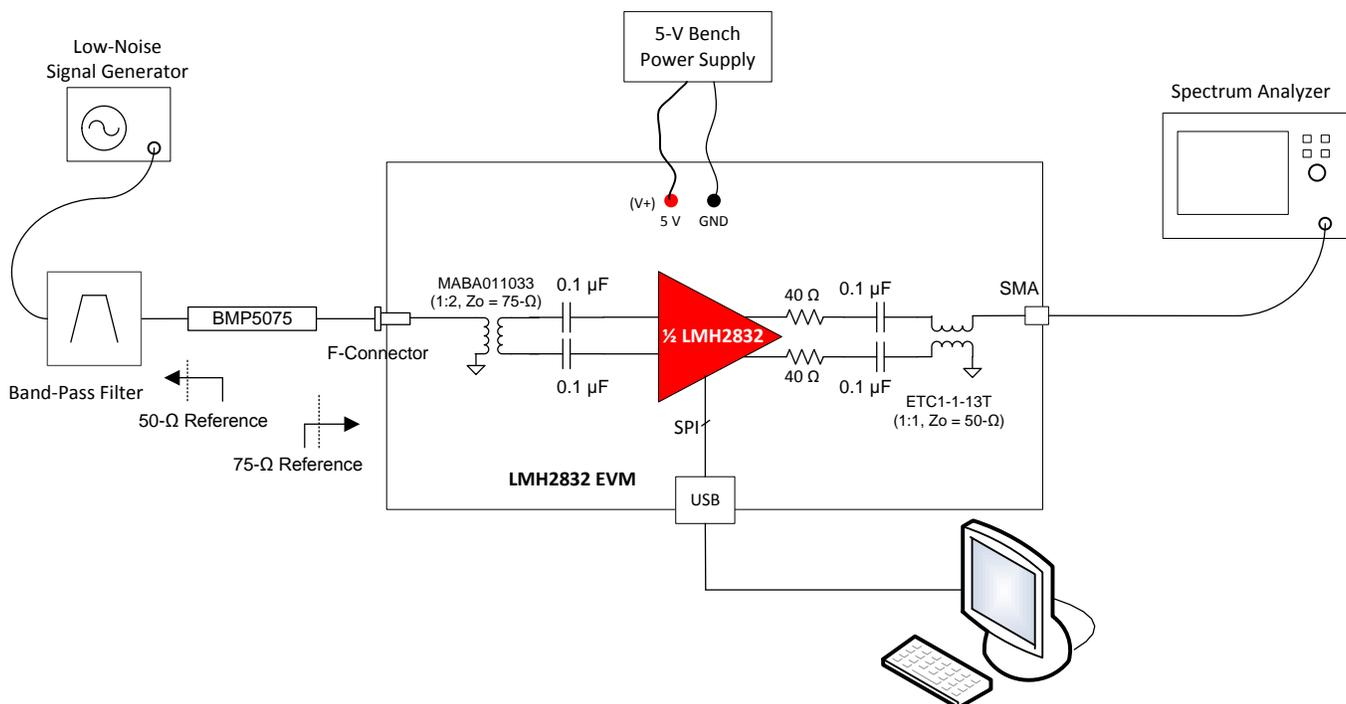

Figure 2. LMH2832 Evaluation Board Setup Block Diagram
Figure 2 illustrates the LMH2832 evaluation board setup block diagram.
2. While the supplies are turned OFF, connect the evaluation board power supply pins (V+ and GND) to the bench power supply of 5 V and GND, as shown in Figure 2, using a low-noise bench power supply.
1. The LMH2832EVM-75 evaluation board provides the customer flexibility in testing at different input frequencies using on-board input and output baluns as shown in Figure 2.
2. While connecting a 50- $\Omega$  signal source to the LMH2832EVM-75 evaluation board inputs with 75- $\Omega$  F-connectors, an impedance converter pad like the BMP-5075 is required for proper interface as shown in Figure 2.
1. The LMH2832EVM-75 evaluation board has SMA connectors at the output and can be directly connected to 50- $\Omega$  test equipment as shown in Figure 2.